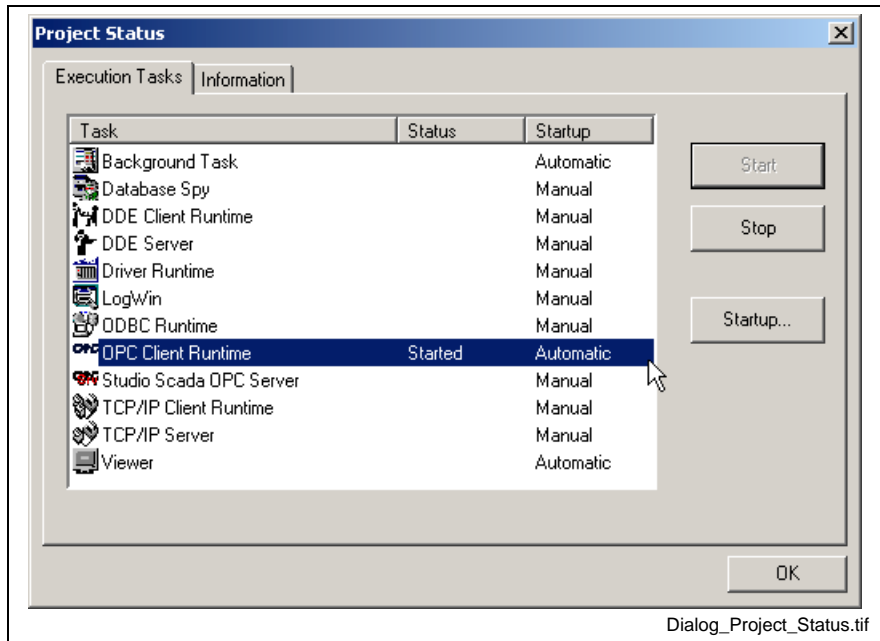

Fig.5-4: Dialog **Project Status**
3. Start the **OPC Client Runtime** with a click on button **Start**. See Fig.5-4: Dialog Project Status